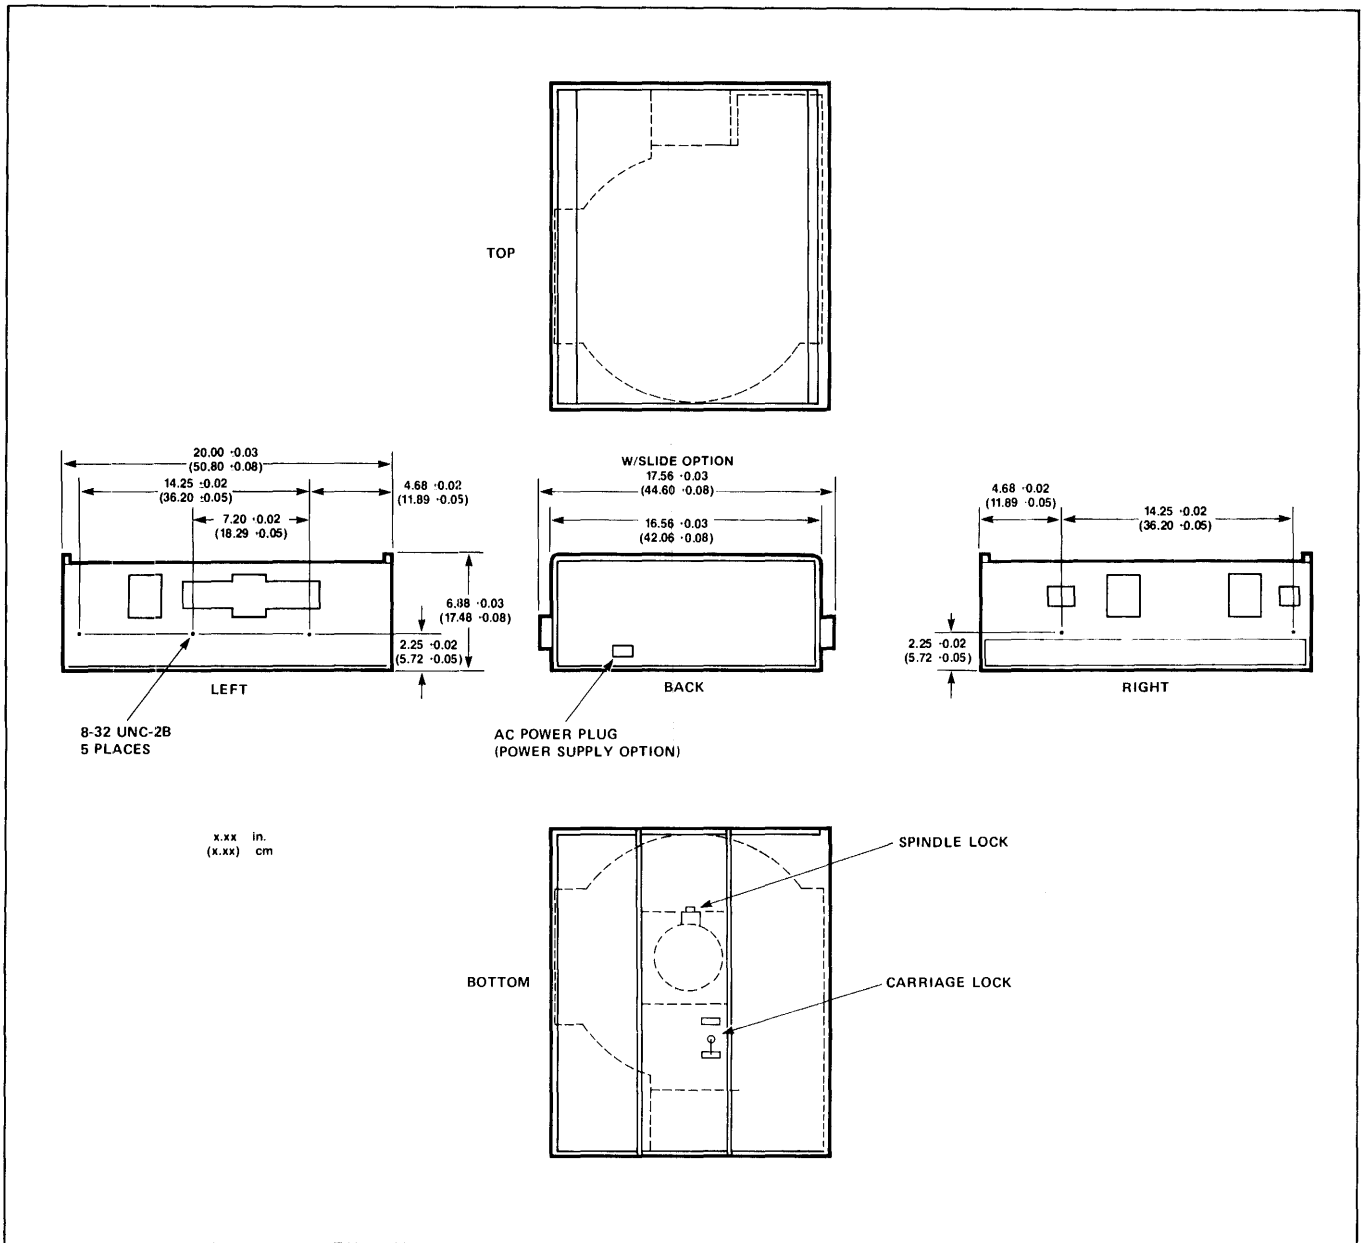

Figure 2-1. PRIAM 14-Inch Disc Drive Dimensions and Mounting
2.4 Mounting/Weight Specifications. Outline drawings of DISKOS 14-inch products are provided in Figure 2-1.
2.4.2 Mounting. The recommended mounting orientations are (i) horizontally, with PCB up for cooling, or (ii) vertically, with the power supply side of the rack frame down and positioner motion horizontal. The exact locations of the drives' mounting pads are shown in Figure 2-1. All PRIAM 14-inch drives can be mounted in a standard 19-inch rack. PRIAM offers an optional slide mounting kit for use with the 14-inch drive models.
4.1 Mounting. All PRIAM 14-inch drives can be mounted in a standard 19-inch rack. PRIAM offers an optional slide mounting kit for use with the 14-inch drive models. See Figure 2-1 for mounting dimensions.